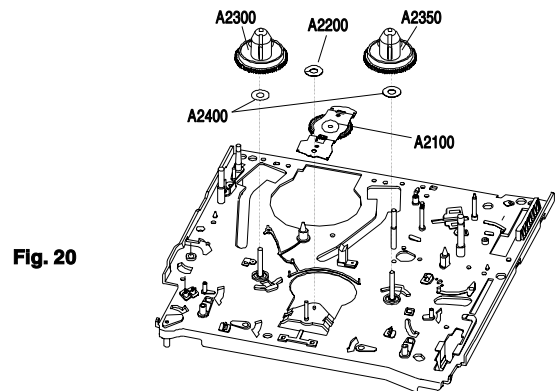

Fig. 20
- The reels (Pos. A2300 / A2350, Fig. 20) can be taken out when having removed the tension arm (point 3.7) and the reel brakes (point 3.8).
- Remove the retaining washer (Pos. A2200, Fig. 20).
- Remove the idler wheel (Pos. A2100, Fig. 20).